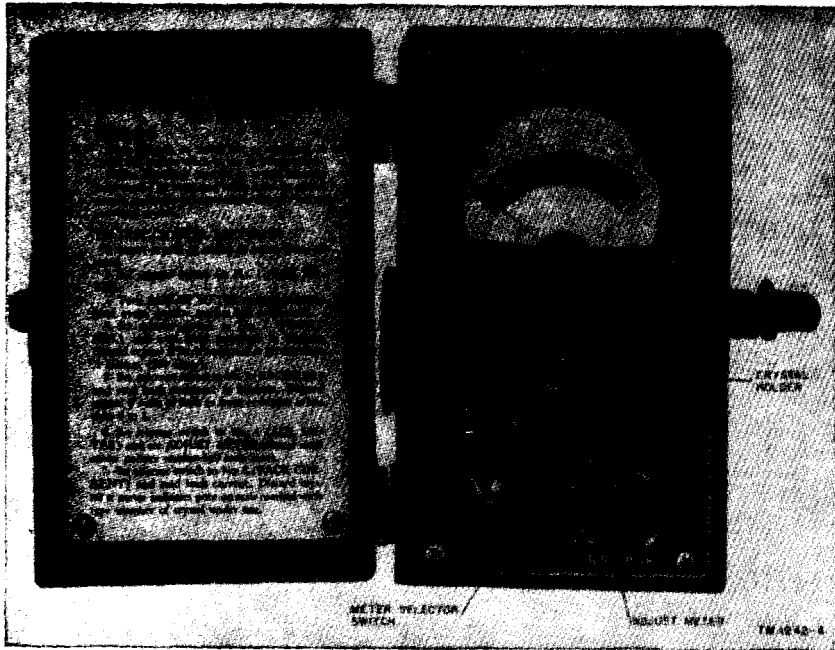

Figure 5. Crystal Rectifier Test Set TS-268B/U, front panel view.
*a.* Crystal Rectifier Test Set TS-268 (\*)/U (fig. 5) is powered from a 1.5-volt dry battery mounted within the case. It has a 0- to 1-ma (milliampere) d-c (direct-current) meter for indications of good or poor crystals. It has a rotary selector switch, meter adjust potentiometer, and crystal socket holder on the front panel. All circuit components are mounted beneath this panel.